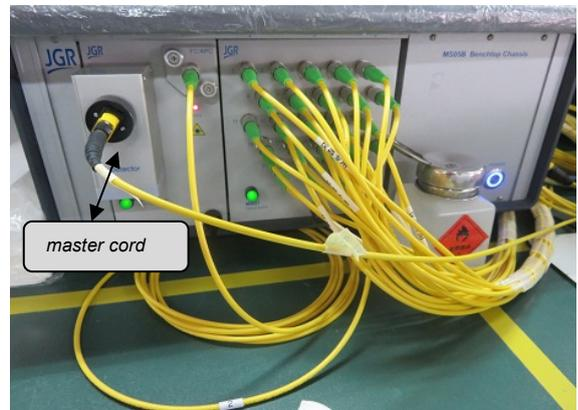
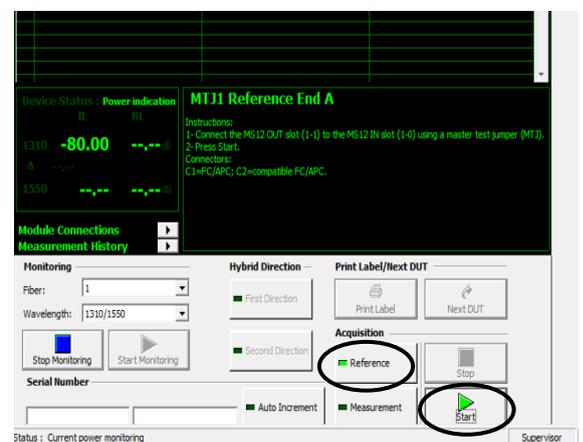

Figure 4
Figure 5
- 2.1 Clear instrument. Connect the master cord MPO connector onto the instrument's optical receive port (no need for Multi-mode patch cord), as shown in Figure 4, click the "Reference" button, click the "▶ start" button to start clearing, as shown in Figure 5.